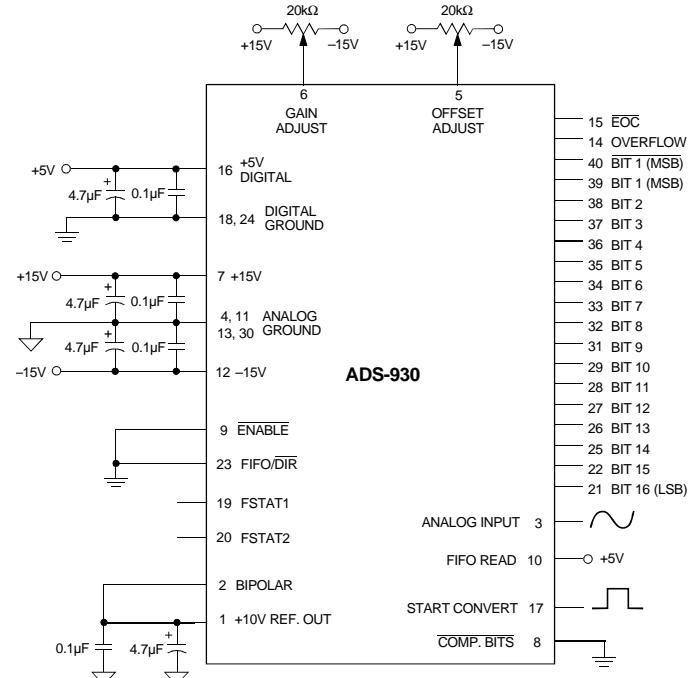

Figure 2. Bipolar Connection Diagram
2. The ADS-930 achieves its specified accuracies without the need for external calibration. If required, the device's small initial offset and gain errors can be reduced to zero using the adjustment circuitry shown in Figure 2. When using this circuitry, or any similar offset and gain calibration hardware, make adjustments following warmup. To avoid interaction, always adjust offset before gain. Tie pins 5 and 6 to ANALOG GROUND (pin 4) if not using offset and gain adjust circuits.
(Refer to Figure 2 and Tables 3a, and 3b)
Connect the converter per Table 2 for the appropriate input voltage range. Any offset/gain calibration procedures should not be implemented until the device is fully warmed up. To avoid interaction, adjust offset before gain. The ranges of adjustment for the circuits in Figure 2 are guaranteed to compensate for the ADS-930's initial accuracy errors and may not be able to compensate for additional system errors.